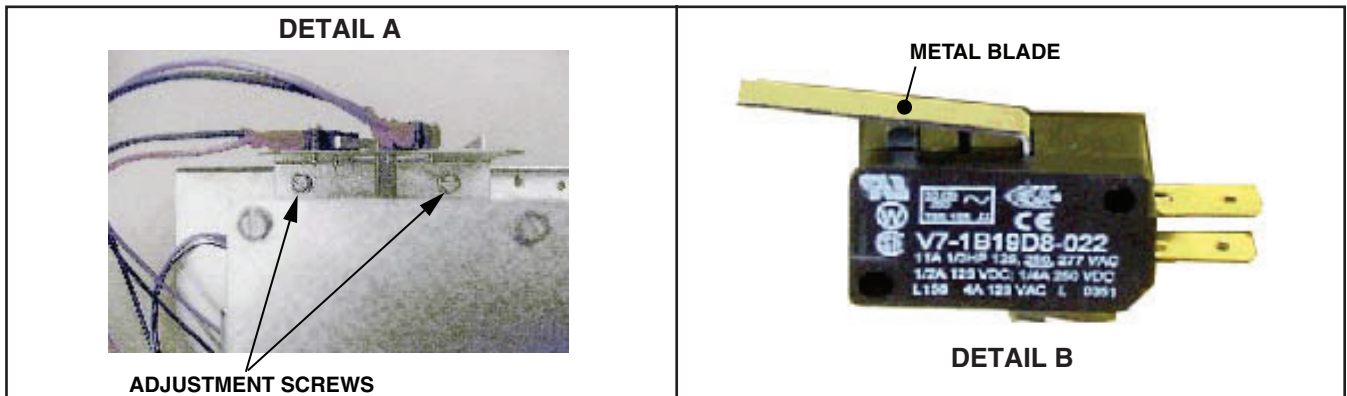

Figure 5. End Switch Adjustment
9. Set system control to call for heat and vary control settings to observe for proper opening and closing of damper. If damper door does not fully close or open properly, loosen adjustment screws shown in **Figure 5, DETAIL A** and slide end switch back and forth until proper operation is obtained. If necessary, carefully bend metal blade shown in **Figure 5, DETAIL B**.